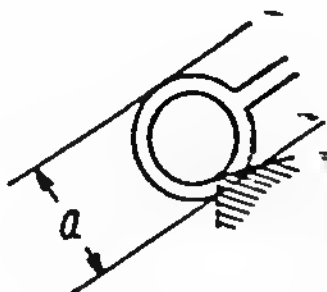

Fig. 13
- (2) Low Brightness (EV 3)
- (e) Adjust microammeter to between 31 and 41 μ A. At this setting, at least the lower portion of the match needle, and not more than the complete needle should be within the lower warning mark, as shown in Figure 13.